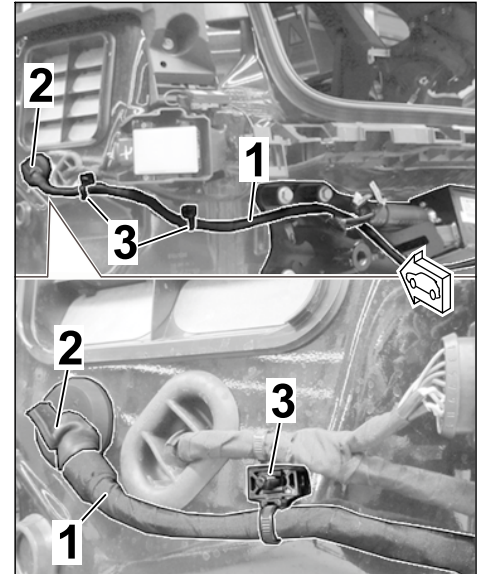

Figure 8
2.2.3 Fit tie-wraps for wire harness (2 x) on threaded bolts on the outside of the vehicle (⇒ Figure 8).